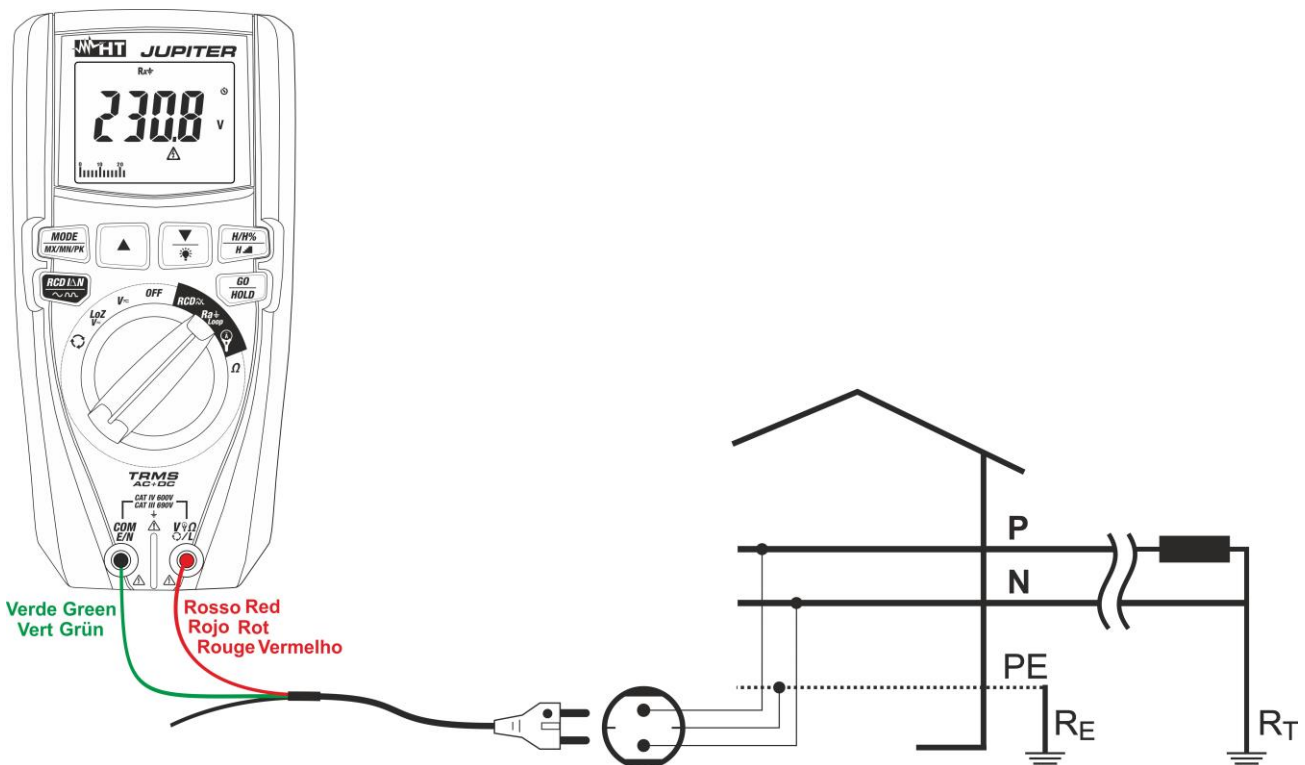

Fig. 23: Use of the instrument for measuring Loop L-PE impedance with cable provided with Schuko plug
5. **For Loop L-PE measurements**, in case the cable with Shuko plug is used, insert the red conductor into input terminal $V \perp \Omega \perp L$ and the green conductor into input terminal **COM/E/N** and connect the instrument to the system to be tested (see Fig. 23). The value of voltage Phase-Earth is shown on the display